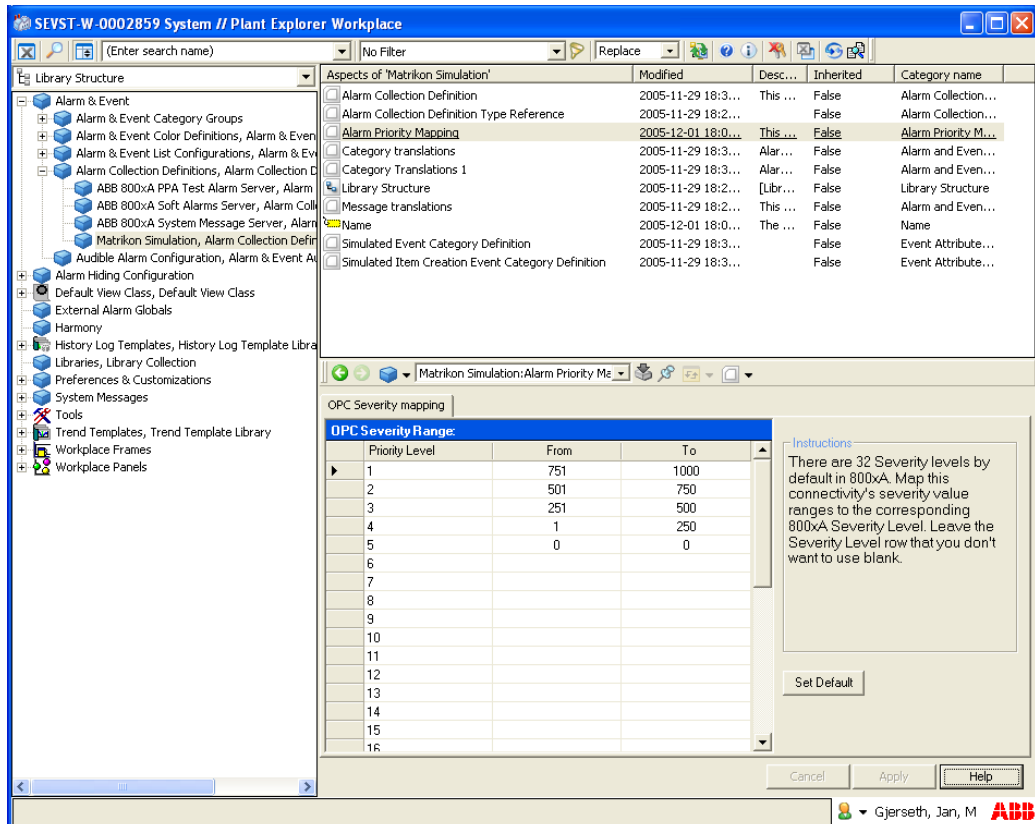

Figure 277. Alarm Priority Mapping
3. Adjust the priority mappings so that the alarm and events from the connected OPC server harmonize with the rest of the system, refer to Figure 277.